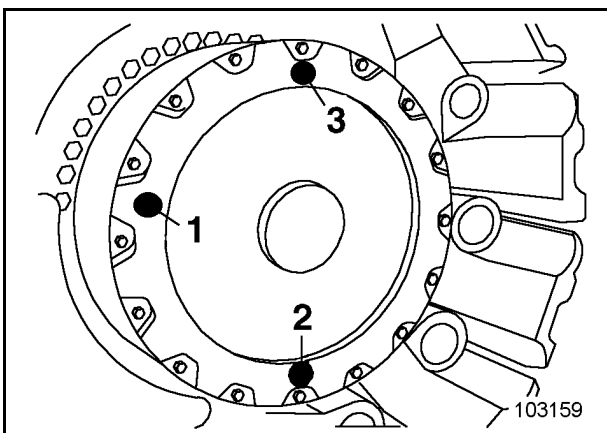

Fig. 3-126:
- Unscrew plug (5, Fig. 3-126:) and drain off oil completely.
- Clean plug (5) and screw back in place.
- Unscrew plugs (1 and 3). Fill in oil through opening in plug (3) until it flows out of opening in plug (1) or the oil level is visible in the level gauge (4, Fig. 3-126:).